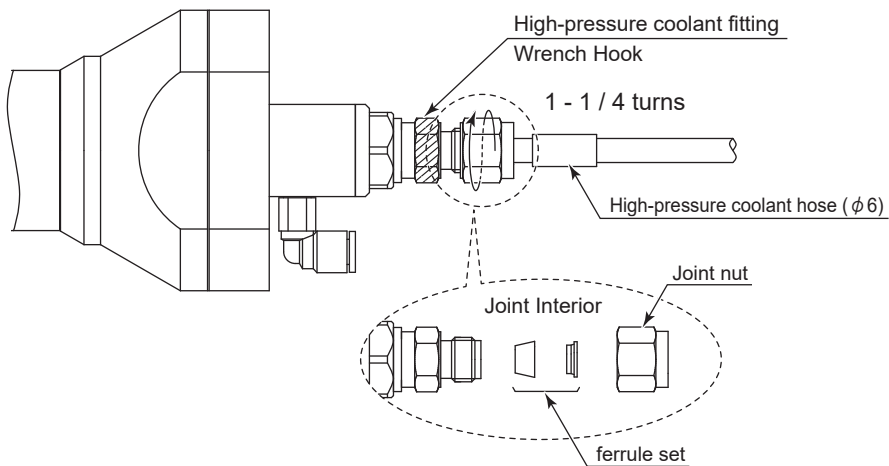

Fig. 20
- (2) Fit an adjustable wrench on the elbow surface (shaded area) of the high-pressure coolant fitting to hold it in place, and use another adjustable wrench to tighten the joint nut $1 - 1/4$ turns. (Fig. 20)